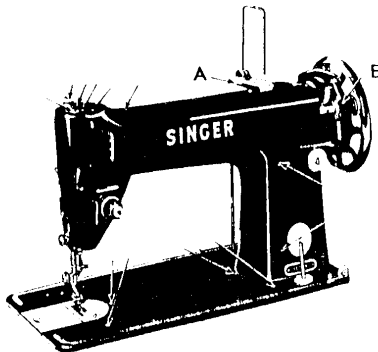
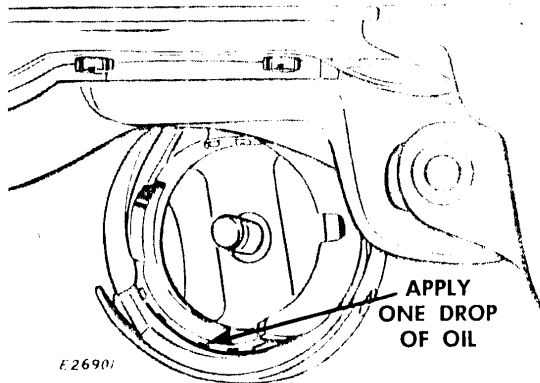

Fig. 2. Front View—Oiling Points
Fig. 7. Oiling Point in Hook Race
- Lift and remove arm top cover A, Fig. 2.
Occasionally apply a drop of oil to the bobbin winder at E, Fig. 2. Frequently apply a drop of oil to the bobbin case holder bearing in the sewing hook race, as shown in Fig. 7.